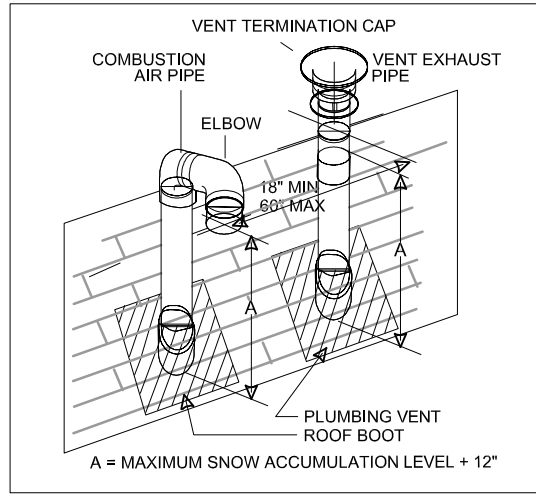
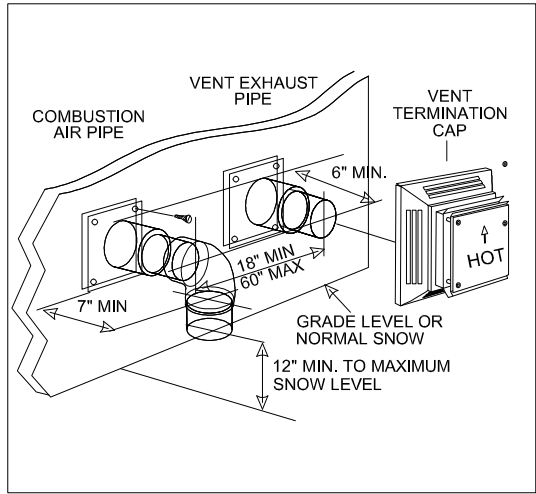

FIGURE 5
FIGURE 6
- AS SHOWN IN FIGURE 5 AND FIGURE 6, THE COMBUSTION AIR INTAKE AND THE VENT OUTLET MUST BE INSTALLED NO CLOSER TOGETHER THAN 18 IN (45.7CM) AND NO FARTHER APART THAN 60 IN (1.5M). THE COMBUSTION AIR INLET OPENING MUST FACE DOWNWARD TO PREVENT ENTRY OF RAIN OR SNOW. THE VENT OUTLET MUST DISCHARGE AWAY FROM THE COMBUSTION AIR INLET - NORMALLY IN A HORIZONTAL DIRECTION WHEN ON A WALL AND VERTICALLY UPWARD WHEN ON A ROOF. BOTH SHOULD TERMINATE AT LEAST 12 IN (30.5CM) ABOVE THE SNOW ACCUMULATION LEVEL. IN LOCATIONS WITH FREEZING CLIMATE, EXTENSION OF THE VENT PIPE OUTSIDE OF THE BUILDING SHOULD BE MINIMIZED.